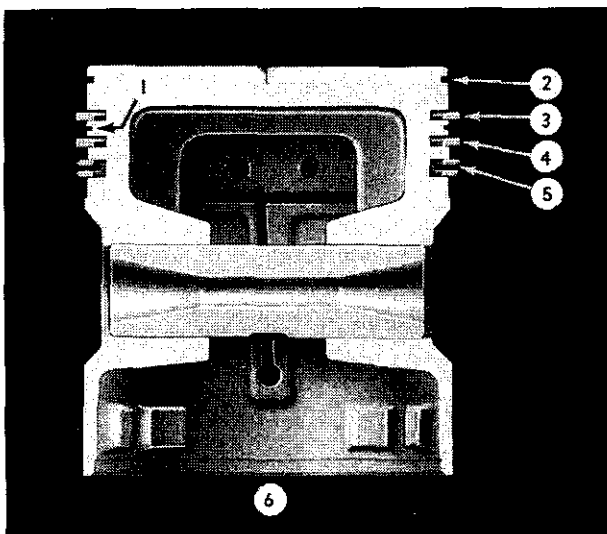

FIG. 378
The piston (6, Fig. 378) of the Commander engine is provided with a groove (1) in the second land to reduce blow-by to a minimum in the higher speed operating range. It is important that the groove be cleaned whenever the pistons are removed. To clean the groove, apply coarse grinding compound to a piece of string, then run the string around through the groove until the groove is clean. After cleaning the groove thoroughly be sure to remove all grinding compound from the piston.